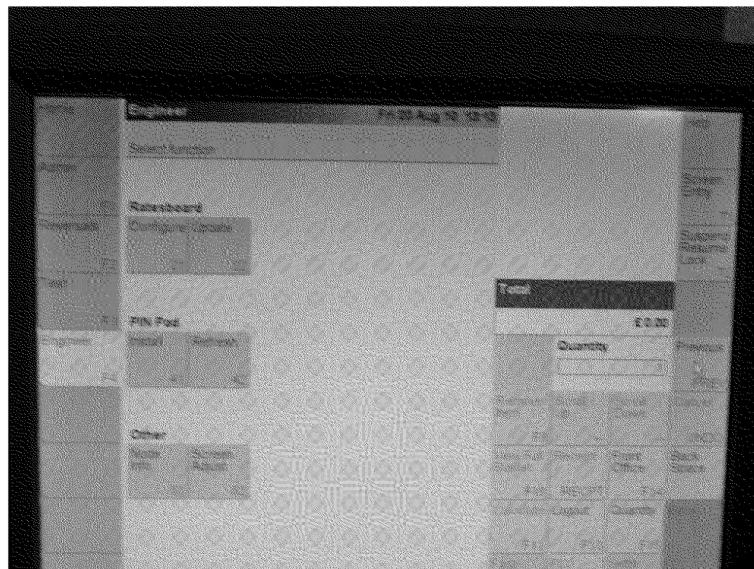

Figure 17
- 5) From the Desktop, the Branch Manager should touch the ‘Back Office’ icon. Then “Engineer” The screen below will now be displayed (see Figure 17 below)